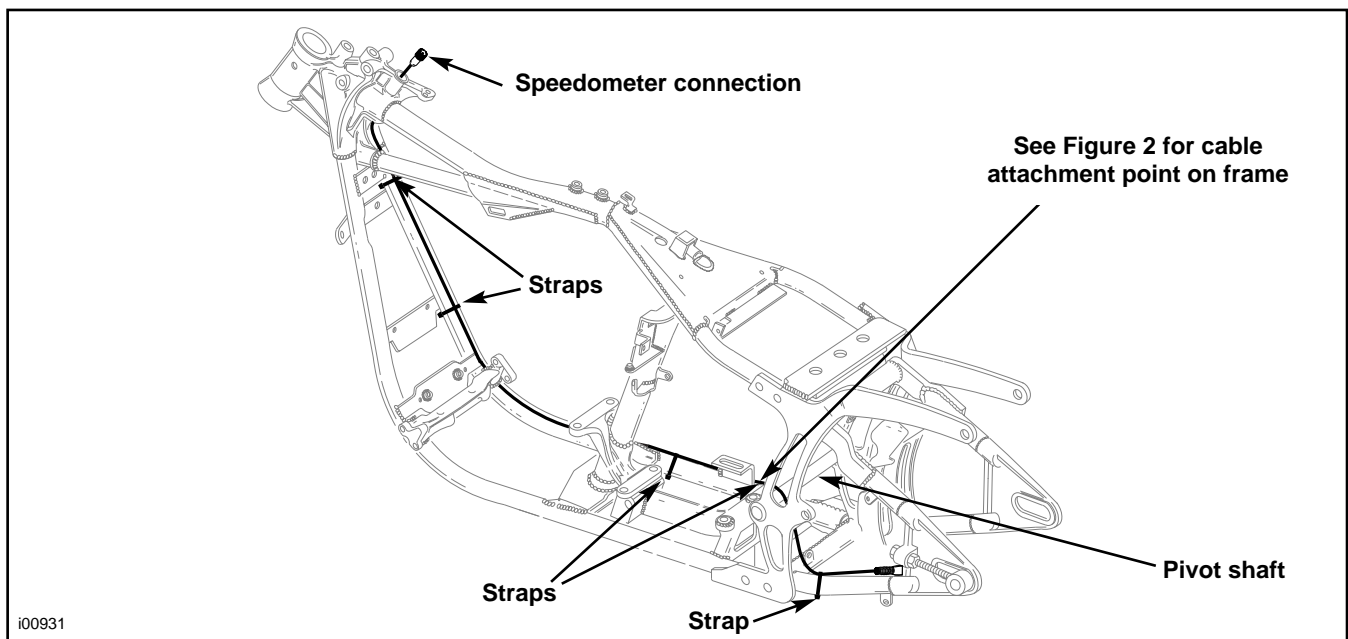
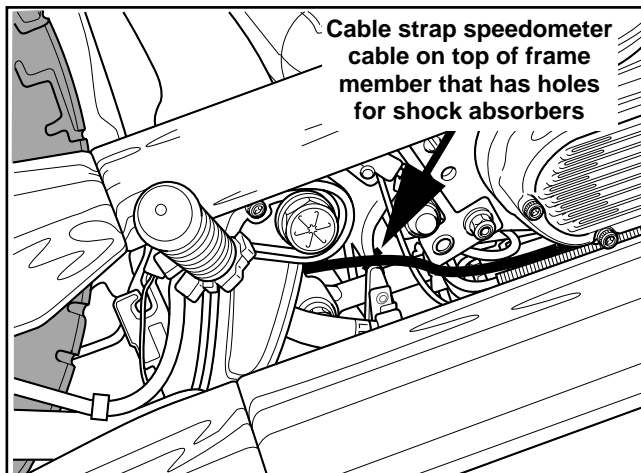

Figure 1. Routing Speedometer Cable
Figure 2. Attachment Point for Cable
4. See Figure 1. Beginning at speedometer, route cable back to rear wheel as shown in illustration. Cable strap cable in place at locations shown. See Figure 2 for cable attachment point on frame. Slide boot over cable end.